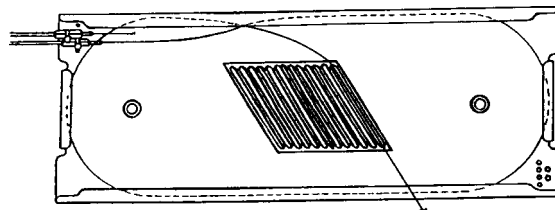

FIGURE 29 - ROUTE FIBERS
16.06 Select the fibers from one direction and route them around the tray (under the edge) until the fibers have made one-and-one-quarter laps in the tray. (Figure 29)